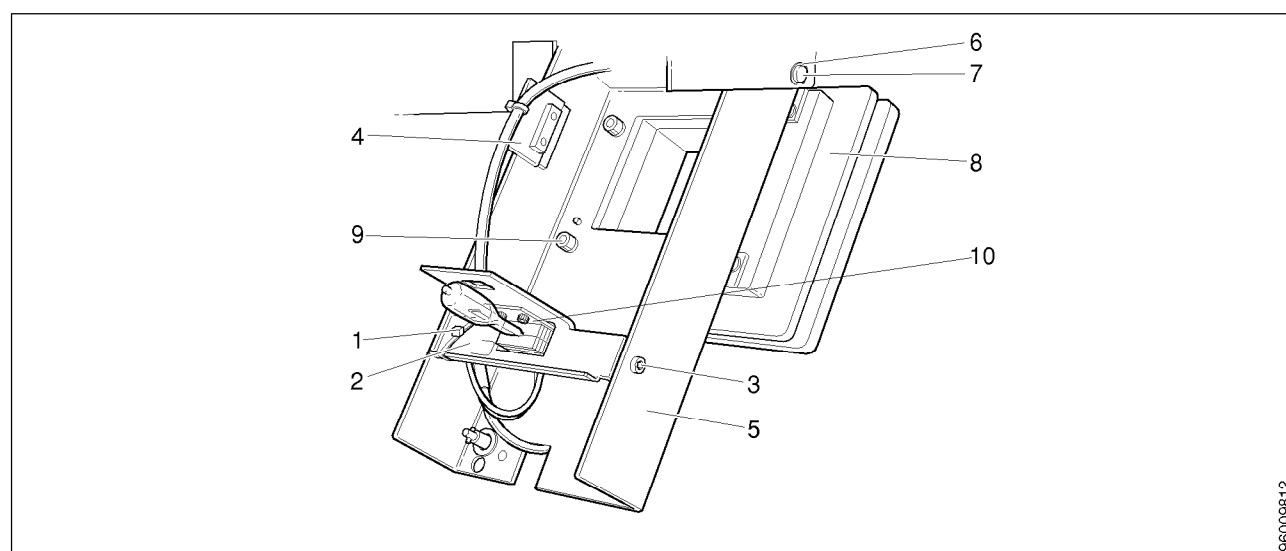

Fig. 3
- Rotate the collimator (5/Fig.3) downward.